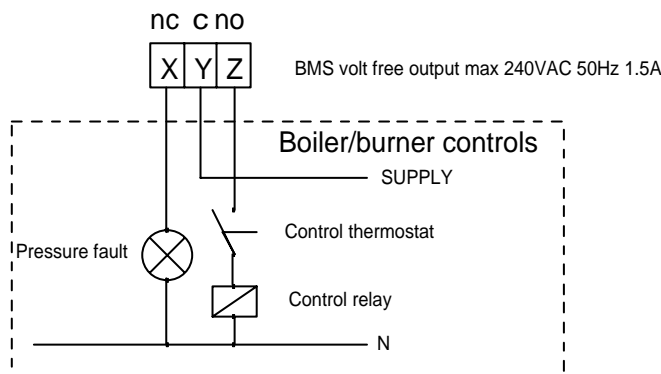

Fig 1.3 Typical Boiler Interrupt Circuit (wiring by others)
- 1.3.6.4 Connect boiler/chiller relay terminals in series with the boiler/chiller control circuits so that in the event of a fault condition occurring the boiler/chillers shut down and remain inoperative until the fault condition is rectified. A typical arrangement is shown in fig 1.3.